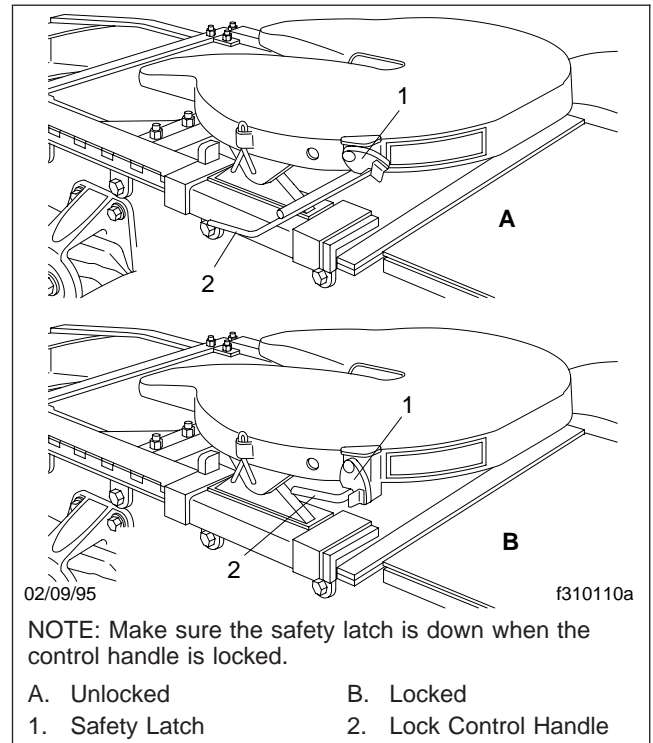

Fig. 10.19, Fontaine 5000 Series Fifth Wheel, Locking and Unlocking
6. Make a visual and physical check for positive kingpin lockup. When lockup has occurred, the fifth wheel control handle will have moved to the locked position. Make sure that the safety latch is down over the lock control handle. See **Fig. 10.19**. This will hold the control handle in the locked position.
6. Release the kingpin locking mechanism by lifting the safety latch and pulling the lock control handle to the unlocked position. See Fig. 10.19.